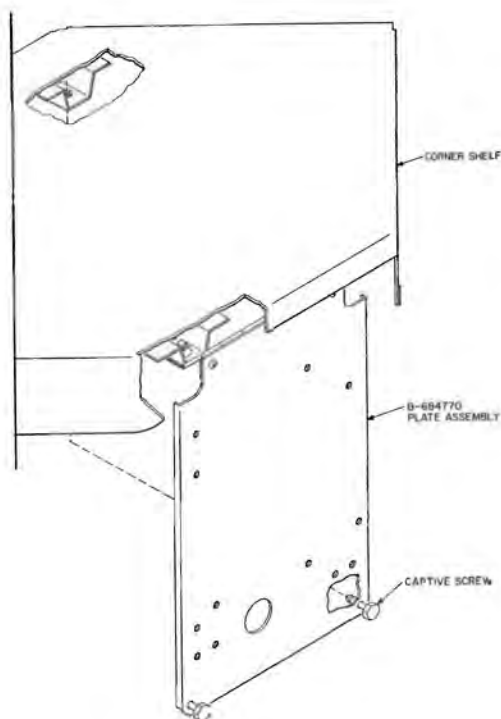

Fig. 6—Subscriber Set Mounting Bracket
2.18 A hinged mounting bracket is located under the corner shelf for mounting a subscriber set (Fig. 6).